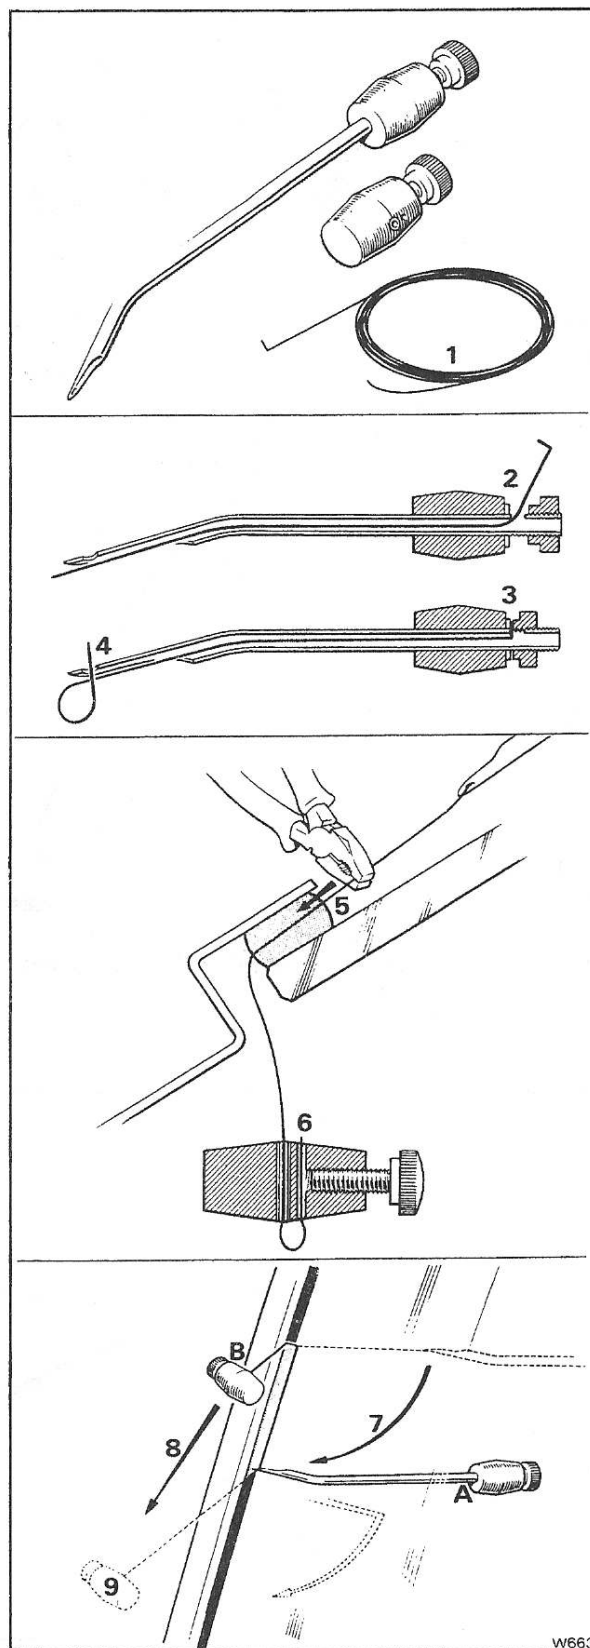

Fig. S141 Removing a windscreen bonded with Betaseal (Camargue)
16. Use a tool similar to the one shown in Figure S141, and strong flexible wire approximately 1100 mm. (43 in.) in length (see Fig. S141, item 1).
17. Bend a small amount of the wire at one end then thread the remainder through the tube of the tool (see Fig. S141, item 2).
18. Secure the end of the wire in the clamping tool (see Fig. S141, item 3).
19. Draw the wire through the guide at the end of the tube (see Fig. S141, item 4).
20. Using a pair of pliers, guide the end of the wire through the Betaseal adhesive to the exterior of the windscreen (see Fig. S141, item 5).
21. Guide the wire through the finger guard tube and clamp into position (see Fig. S141, item 6).
The holding tool (item A) is pulled in the cutting direction as far as possible (see Fig. S141, item 7) and the point of the tool is fixed and held in the adhesive as near as possible to the windscreen flange.
23. The pulling tool (item B) outside the windscreen is moved with an even pull in the cutting direction, close to the opening between the windscreen and body aperture (see Fig. S141, item 8).
24. When the end of the cutting length is reached (see Fig. S141, item 9), repeat Operations 22 and 23 around the circumference of the windscreen, until it can be removed.